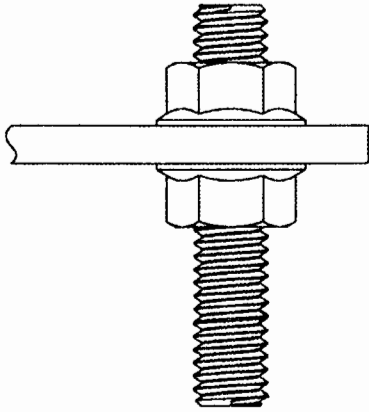

FIGURE 5-3
5.3.1 Install a nut on each end of the four threaded rods and position nuts approximately 2" from each rod end. Refer to Figure 5-3 for correct installation of flange nuts.